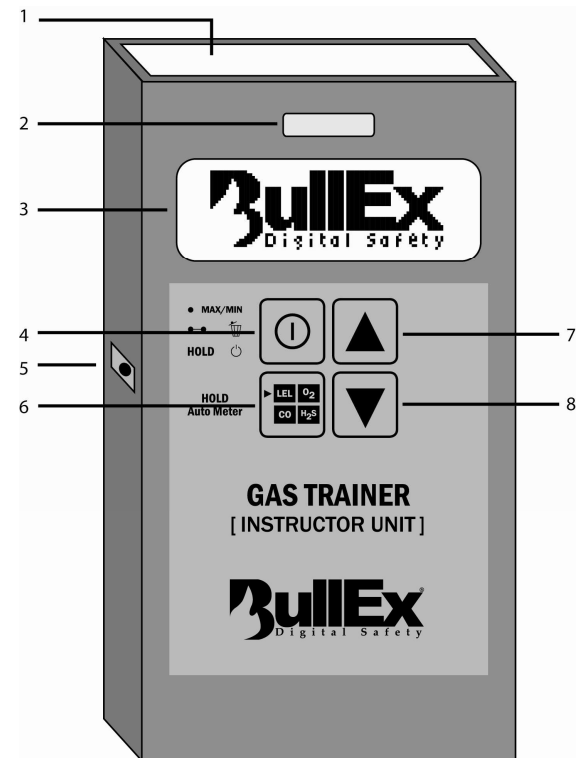

figure 3.8: Controls of the Instructor Unit
- Press the Power button (4) briefly.
The device will switch itself on and give a short optical signal (3,4) and a short beep. The device will start up and shortly show the BullEx logo on the display (5) (figure 3.8).